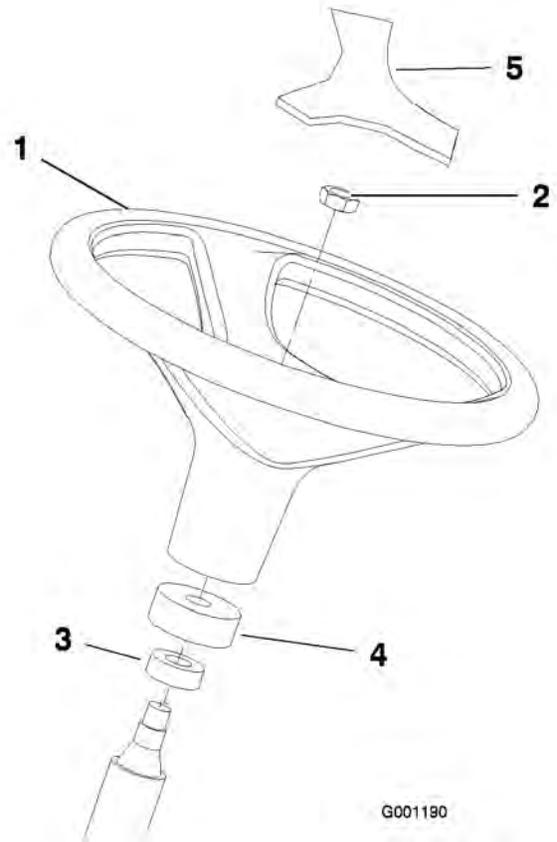

Figure 3
2. Remove the jam nut from the steering shaft. Ensure that the foam collar and dust cover are on the steering shaft (Figure 3).
3. Slide the steering wheel onto the steering shaft (Figure 3).
5. Mount the cover to the steering wheel (Figure 3).